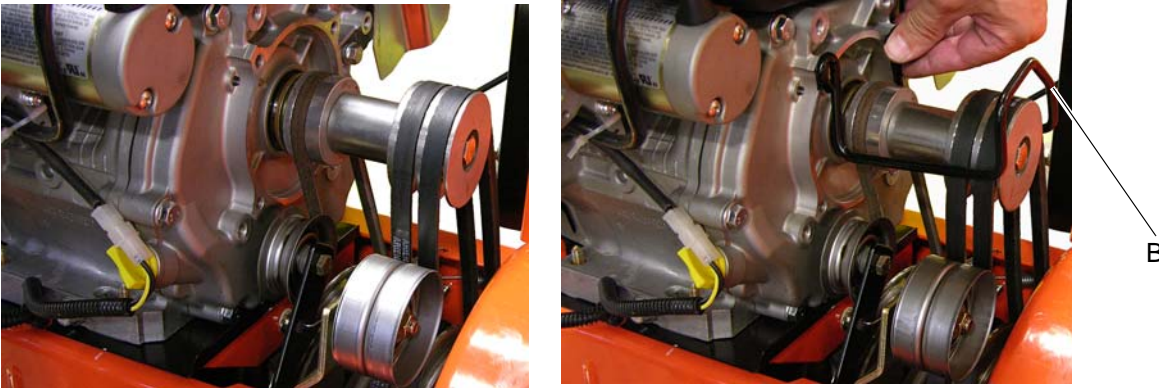

Figure 6
7. Install drive belt and accessory belts (Figure 6).
8. Install belt finger (B) and retain with hardware removed earlier (Figure 6). Torque to 132 lbf-in.